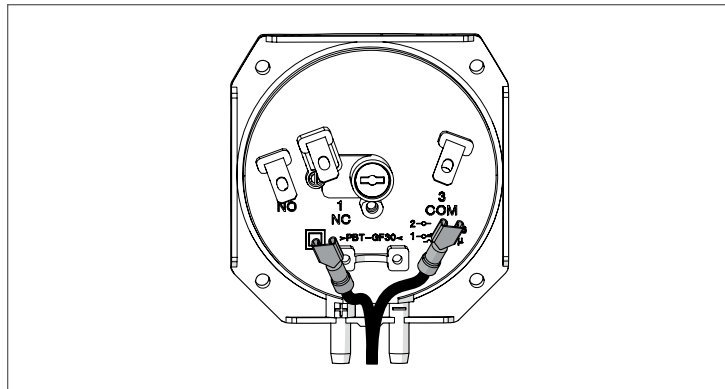
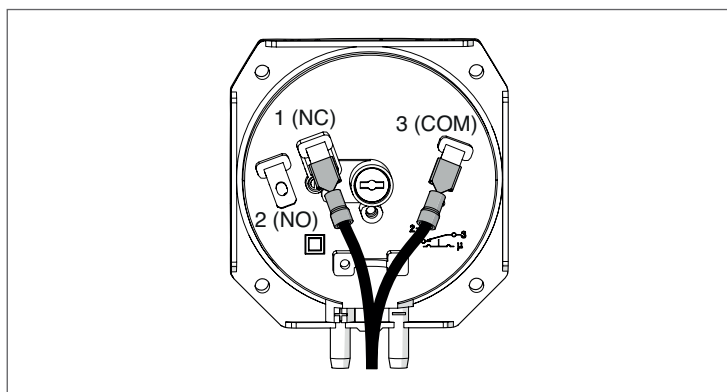

Fig. 58 Disconnect wires
Fig. 61 *Wired pressure switch*
- Test the pressure switch on the other side of the boiler (module 4 or 8); repeat the process from Fig. 58 through Fig. 61.